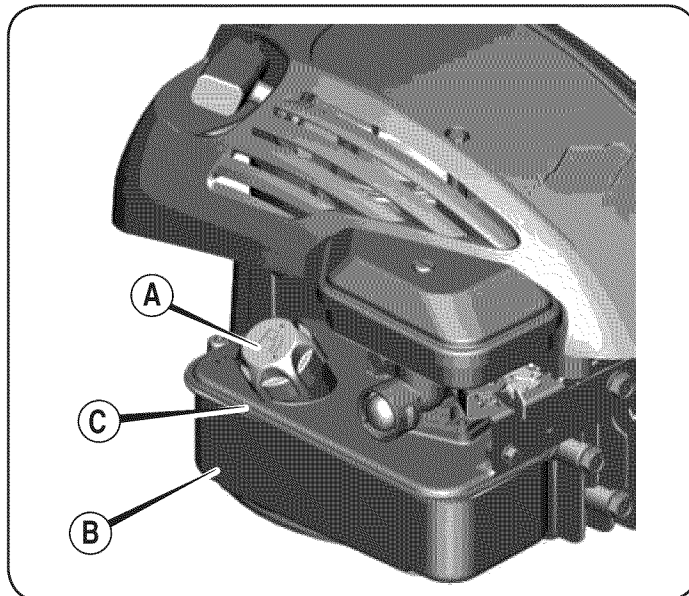

Figure 5
1. Clean the fuel cap area of dirt and debris. Remove the fuel cap (A, Figure 5).
2. Fill the fuel tank (B) with gasoline. To allow for expansion of the gasoline, do not fill above the bottom of the fuel tank neck (C).